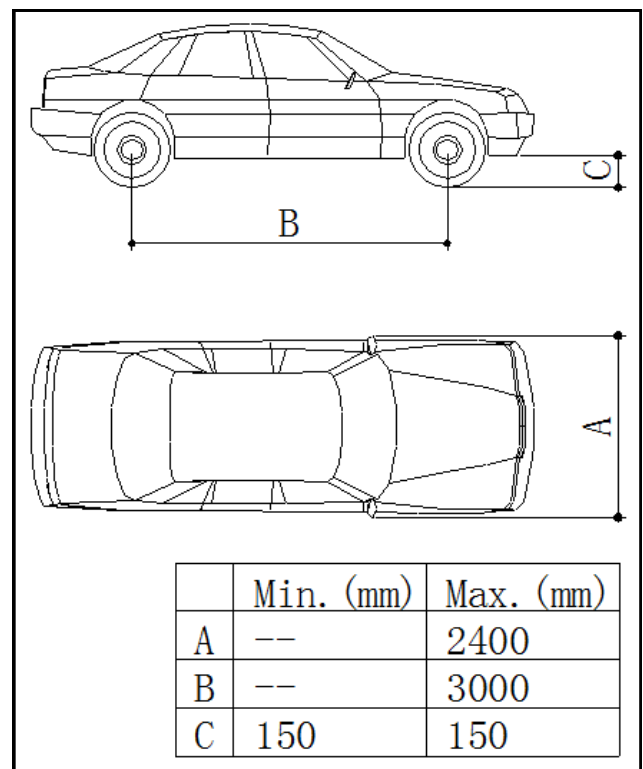
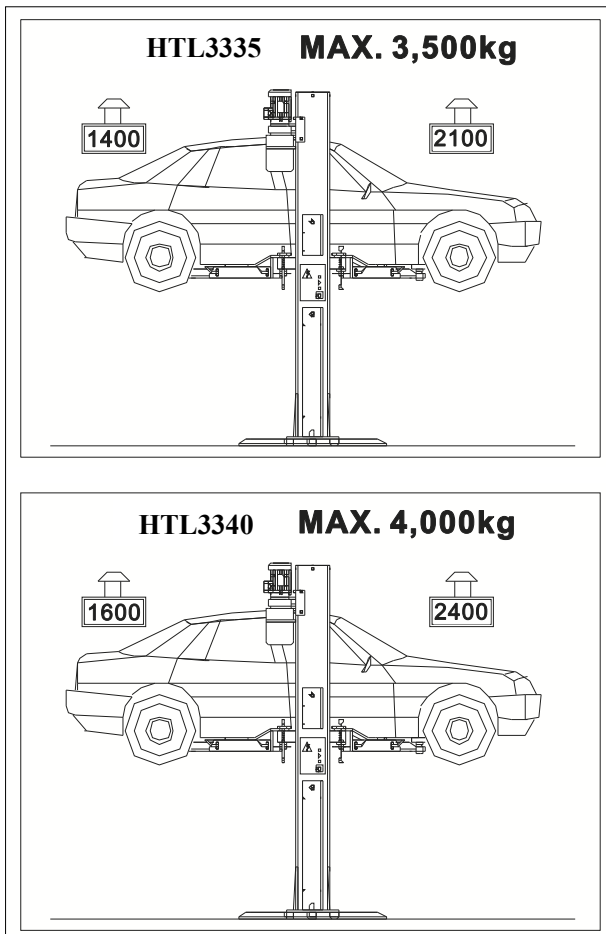

Fig. 7
Fig. 8 Weight Distribution
During lift and descent movements, the operator must remain in the command station as defined in figure 8. The presence of persons inside the danger zone indicated in the same figure is strictly prohibited. The presence of persons beneath the vehicle during operations is permitted only when the vehicle is parked in the elevated position.
- ◆ Only authorized vehicle **(Fig. 7 & Fig. 8)** are raised without exceeding the rate capacity and overall dimensions.